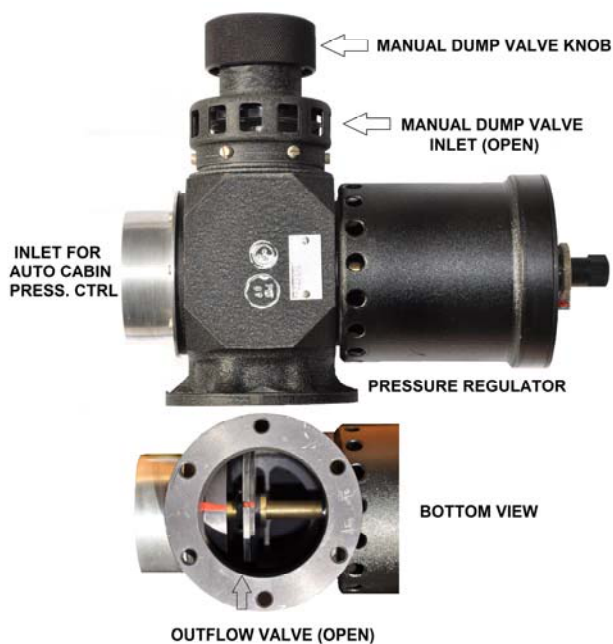

FIGURE 21-3
**CABIN MANUAL DUMP VALVE (FIGURE 21-3)**
## **CABIN MANUAL DUMP VALVE KNOB (FIGURE 21-3)**